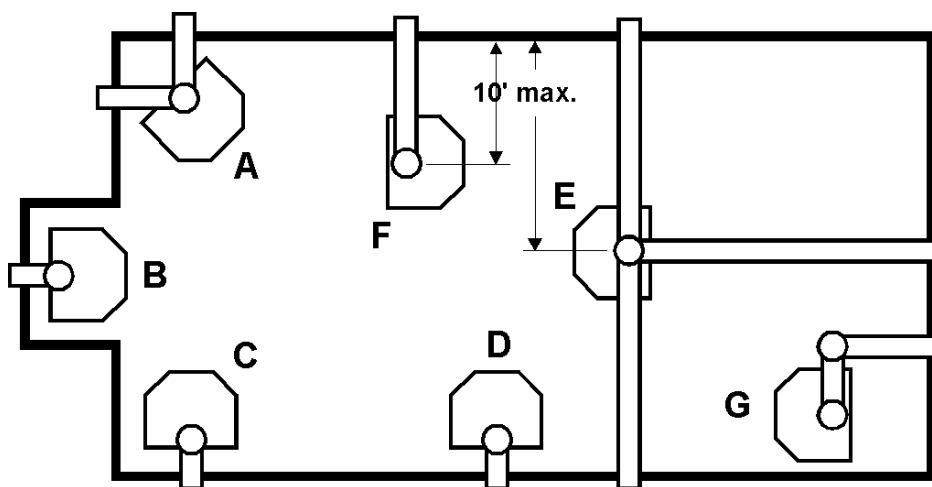

Figure: 3 - Various Approved Installation Configurations
- The **KOZI** Direct Vent Freestanding Gas Stove has been approved for the installations displayed in the following diagram, Fig. 3. This unit has also been approved for installations employing millivolt thermostats for heat regulation. Installations in Mobile Homes have been approved as long as the appliance is securely bolted to the frame.
For example, if the unit is situated as indicated in Fig. 3 but the connector is too close, move the unit until the correct clearance is achieved.
This appliance may only be installed with the clearances provided as shown in Figs. 3 & 4. DO NOT combine clearances from one type of installation with another to achieve closer clearances.
**Note:** The location of the termination cap must satisfy the requirements set forth by the Exterior Vent Terminal Locations found in Fig. 3, on the next page.